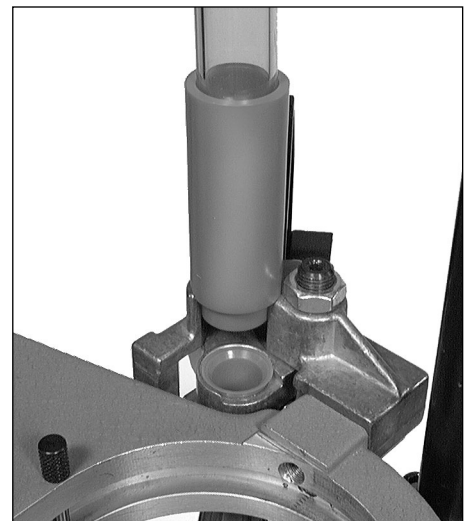

FIG 178
Step 13) Replace the casefeed arm bushing and casefeed adapter **FIG 178:**